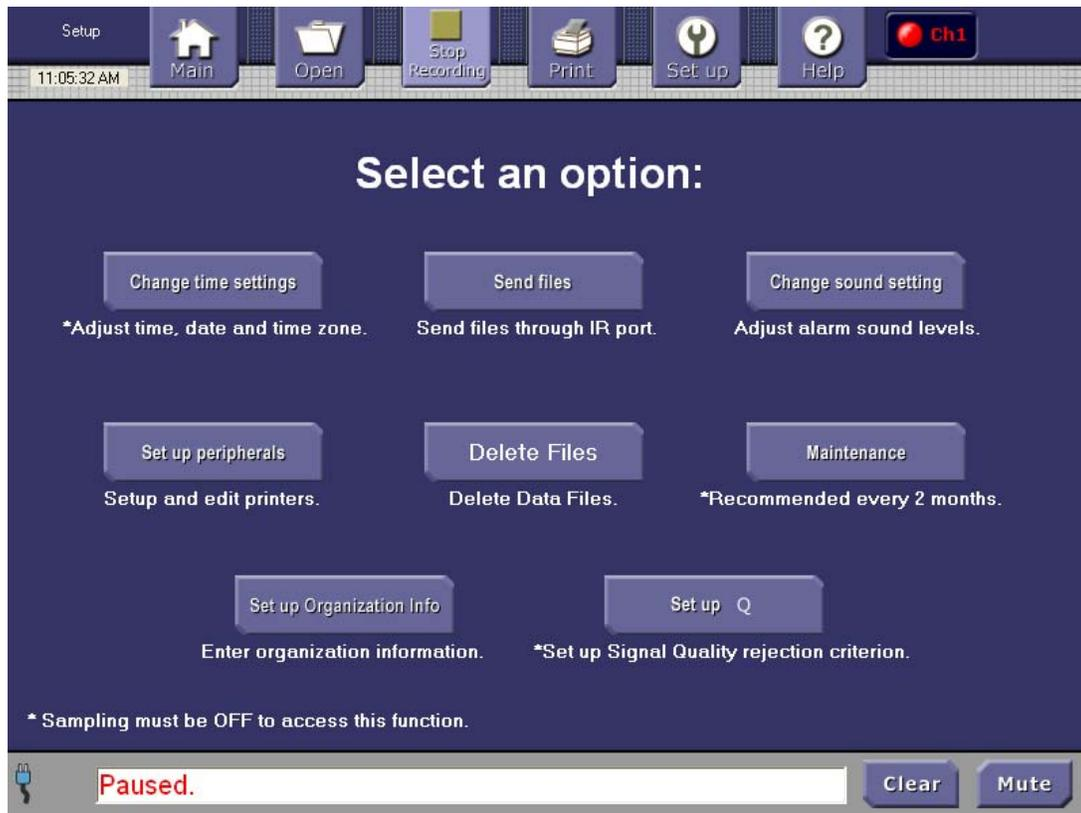
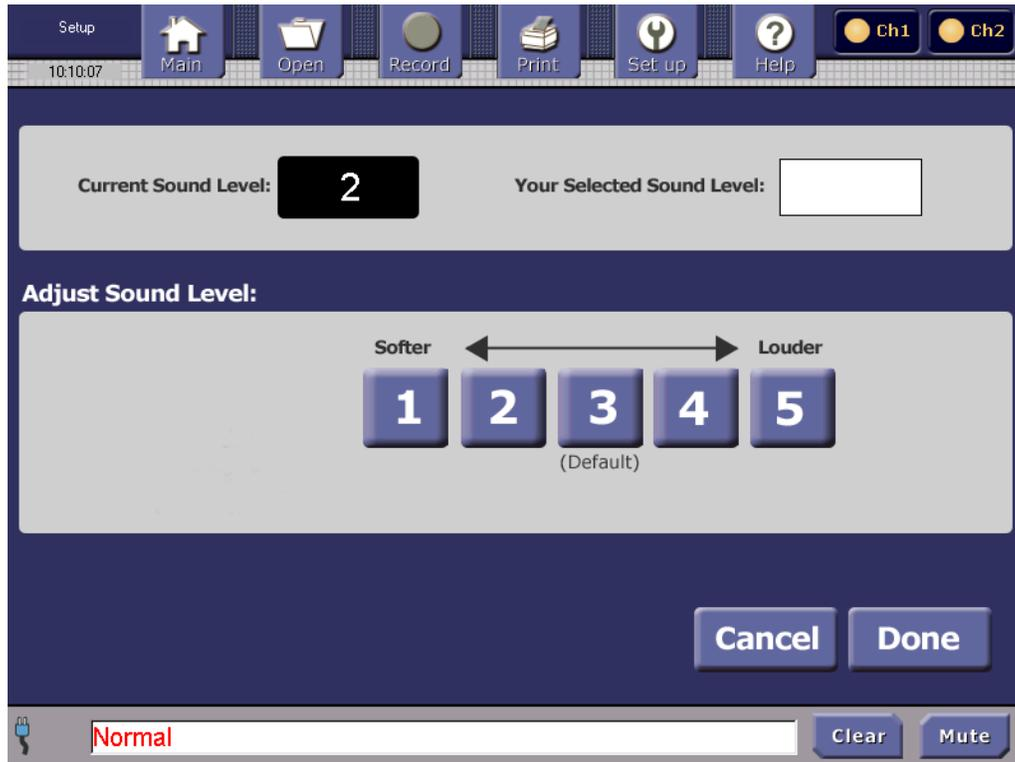
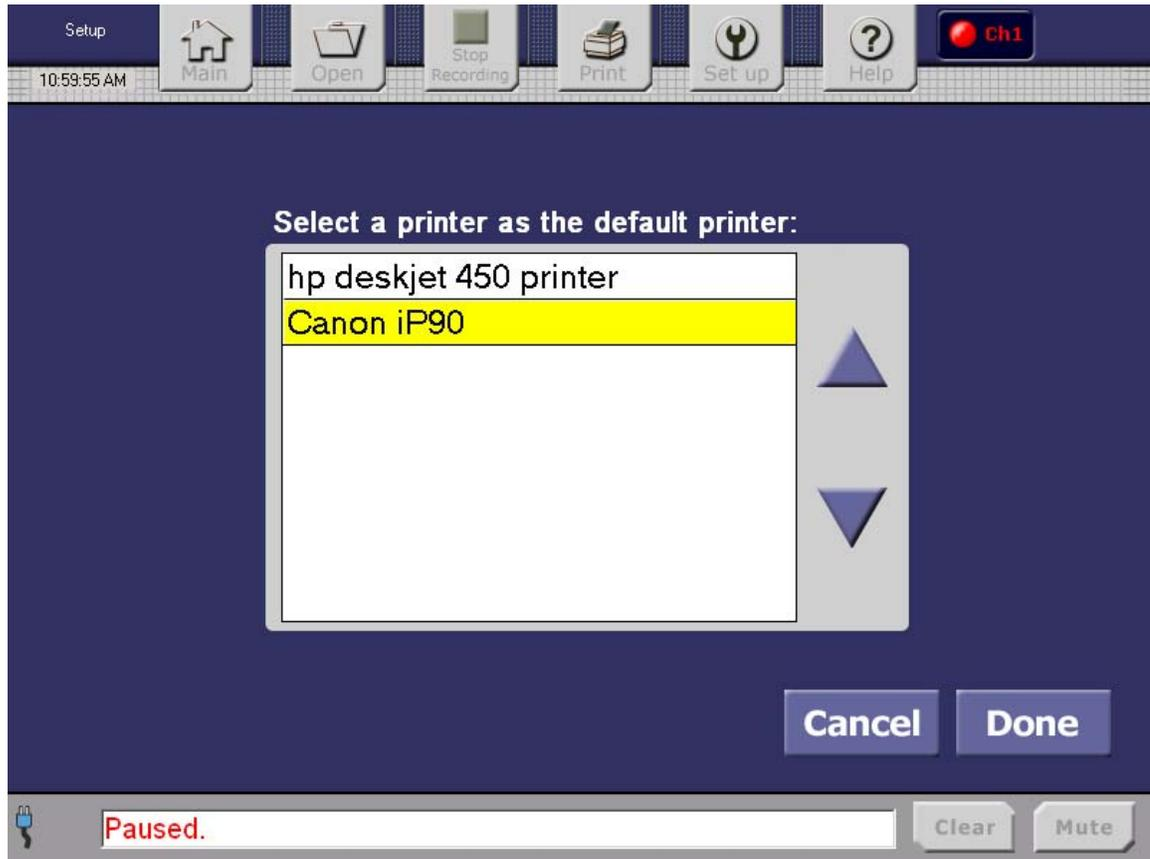

Figure 17. Setup Screen
Figure 24. Set Up Sound Level of Alarms
Figure 25. Set Up Peripherals Screen
1. In the Setup screen (Figure 17), press the **Change sound setting** button. The **Set Up Sound** screen is displayed, as shown in Figure 24.
4. Press **Cancel** to not change the sound level and return to the **Setup** screen (Figure 17);
1. In the **Setup** screen (Figure 17), press the **Set up peripherals** button. The default printer setup screen will be displayed, as shown in Figure 25.
3. Press **Cancel** to not change the default printer and return to the **Setup** screen (Figure 17);
Press **Done** to select the highlighted printer and return to the **Setup** screen (shown in Figure 17).
Press **Cancel** to return to the **Setup** screen (Figure 17);